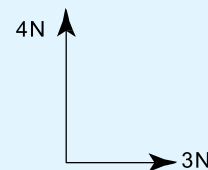

Figure 5.31
8. The magnitude of the resultant of the vectors shown in Figure 5.31 is: